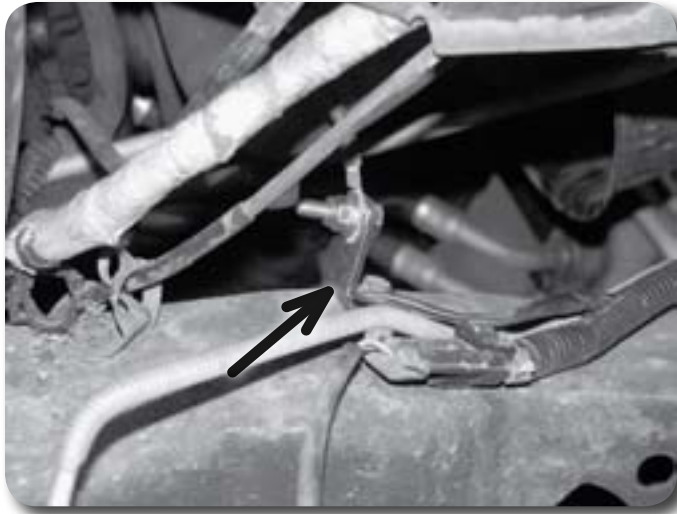

Figure 29
50. Install the short end of the provided L-shaped ground strap relocation to the passenger's side frame rail with the factory bolt Figure 29. Attach the ground strap(s) to the bracket with a 1/4" x 3/4" bolt, nut and two 1/4" SAE washers.